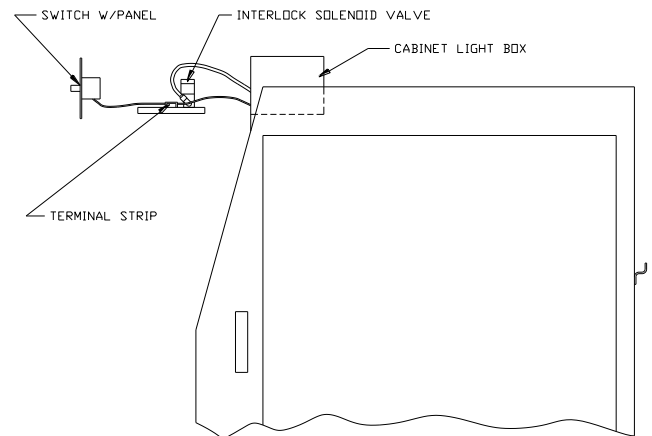

Figure 7. Terminal Strip
Step 14: Slide out the terminal strip plate as shown in Figure 7.